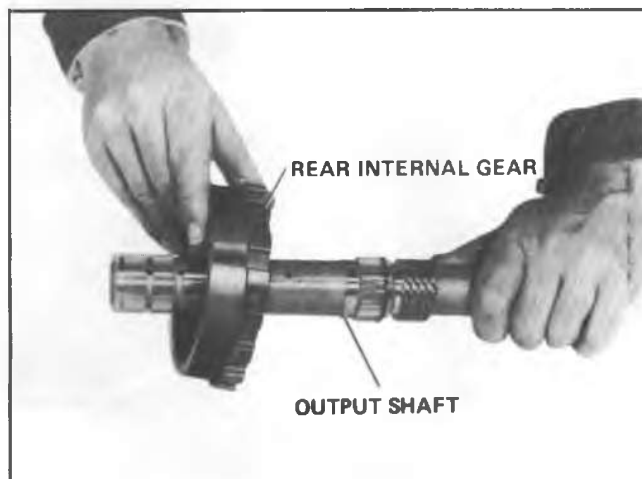

Fig. 7A-39A--Removing Rear Internal Gear
7. If necessary, remove rear oil seal (Fig. 7A-40A).